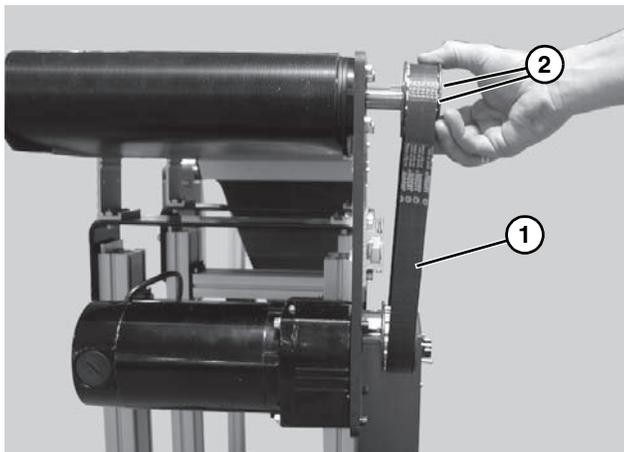

Figure 15
3. Remove timing belt (**Figure 15, item 1**).
If timing belt does not slide over pulley flange, loosen driven pulley taper-lock screws (**Figure 15, item 2**) and remove pulley with belt (**Figure 15, item 1**). For re-installation, see steps 7 thru 9 beginning on page 7.